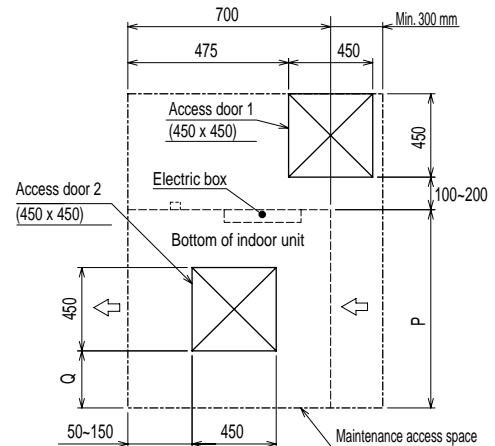

Fig. 2 (Viewed from the direction of the arrow A)
- Create access door 1 and 2 (450 x 450 mm each) as shown in Fig. 2.